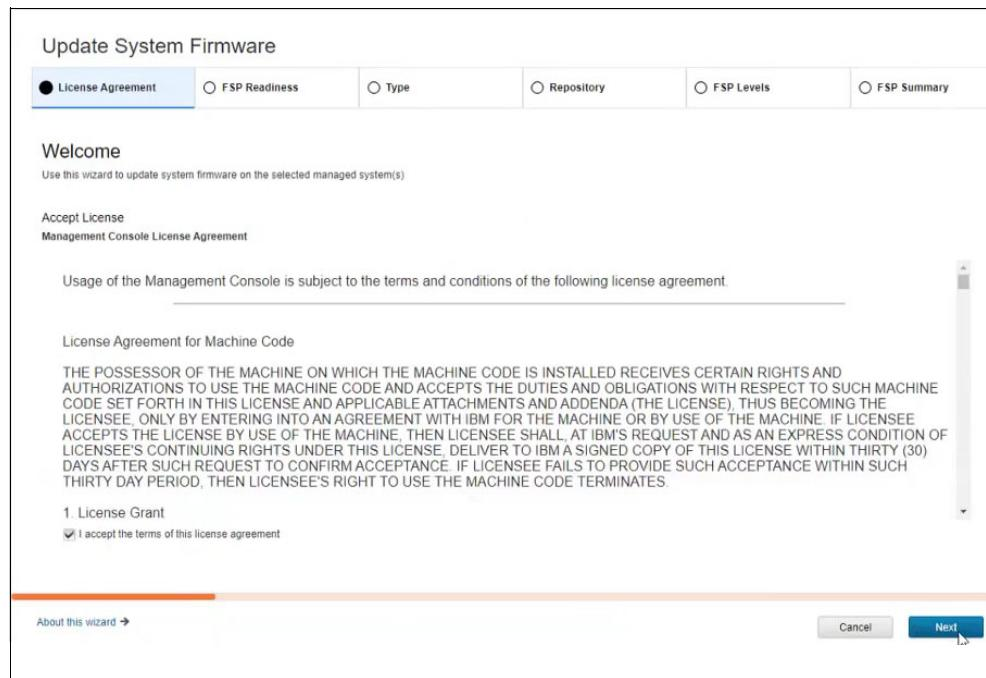

Figure 2-48 Update System Firmware
When system firmware updates are applied to the system, UAK and its expiration date are checked (see Figure 2-48 on page 128). System firmware updates include a release date.
2. Accept the License Agreement (see Figure 2-48). You cannot proceed if you do not accept the agreement. Click **Next**.